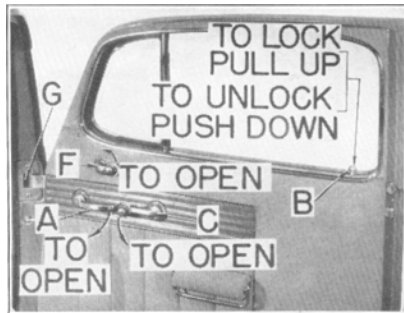

Figure 8
DOOR LOCKS—All doors can be locked from the inside by pulling up on the rubber knob (B) protruding from the door finish moulding, see Fig. 8. To unlock the door